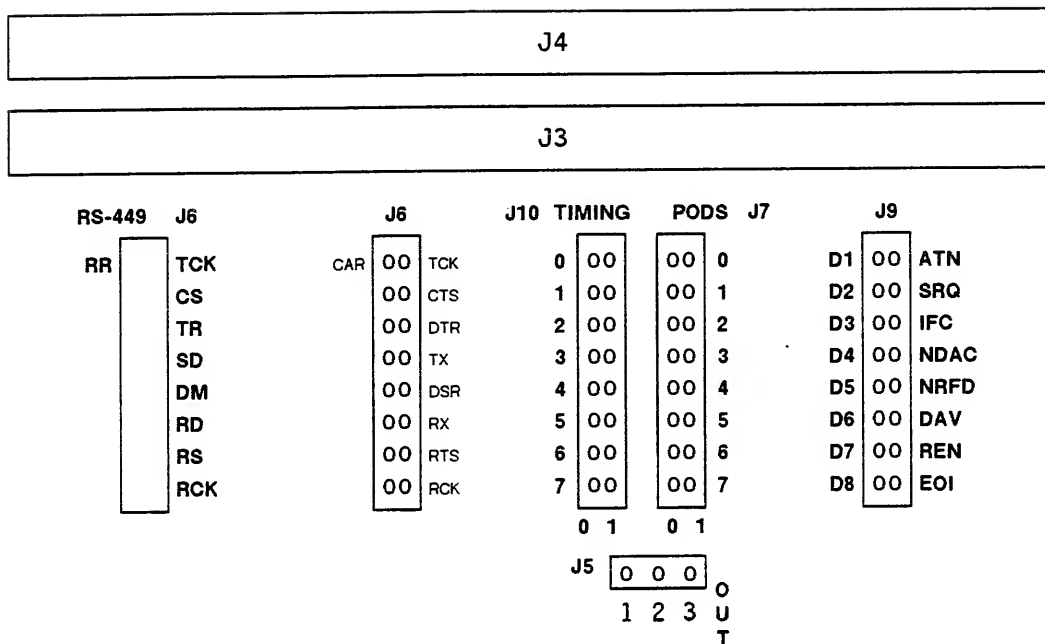

Figure 6-1. Timing Connector Locations
1. On the HP 10342B, connect the ribbon jumper cable to the appropriate pins. All 16 possible timing channels are connected when the jumper cable is connected from J6 to J10. Only nine channels are used with RS-449 processing (see figure 6-1).
- If you want to connect any data or control lines to the front-panel outputs, use the single jumper wires to connect pins of J7 to pins of J5 (see figure 6-1). When you're using the mass-connect jumper cable, the signals at J7 correspond to the mnemonics at J6.